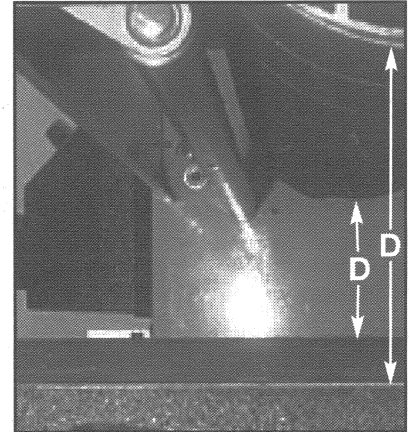

Fig. 18
NOTE: The table to drum parallelism (D) Fig. 18 has been set at the factory. Distance (D) should be the same front to back over the entire width of the feed belt. It is best to measure the board thickness at several places along the length and width to ensure parallelism. To check and/or to adjust parallelism (D) follow the steps below.